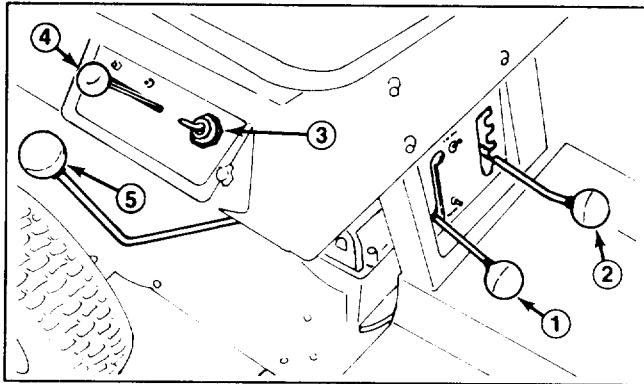

Figure 5
**Gear Shift (Fig. 5)** – The transmission has five forward speeds, neutral, and reverse. The gear shift lever is located on right side of operator. An interlock switch, which prevents engine from being started when transmission is in gear, is mounted on top of transmission.
**Blade Control (Fig. 5)** – Blade control engages and disengages the cutter blade. An interlock switch prevents engine from starting when control is in the ENGAGE position. Engine will start when control is in the DISENGAGE position only.
**Throttle Control (Fig. 5)** – Throttle control connects to and operates carburetor-mounted throttle and choke. Control has three positions: SLOW, FAST and CHOKE.
**Height-of-Cut (Fig. 5)** – Height-of-cut control varies the cutting height from approx. 1-1/2 to 3-1/2 inches in five increments.
2. Move gear shift into neutral and blade control into DISENGAGE detent (Fig. 5).
3. Move throttle control to CHOKE position (Fig. 5) when starting a cold engine. However, a hot engine
4. Rotate ignition key (Fig. 5) to START position. When engine starts, release the key and move throttle between FAST and SLOW if choke was used for starting. Operate the rider with throttle control in FAST (full throttle) position for best performance.
1. Move blade control into DISENGAGE detent (Fig. 5).
2. Move height-of-cut control (Fig. 5) into desired setting.